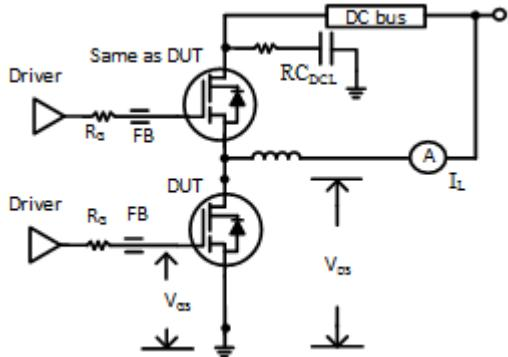
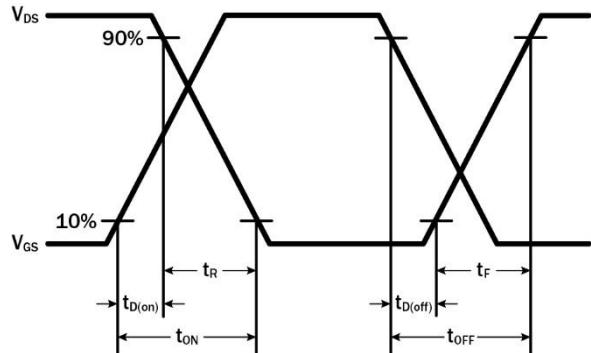

Figure 17. Switching Time Test Circuit
Figure 18. Switching Time Waveform
1. Dynamic $R_{DS(on)}$, 100% tested; see Figure 17 and Figure 18 for conditions.